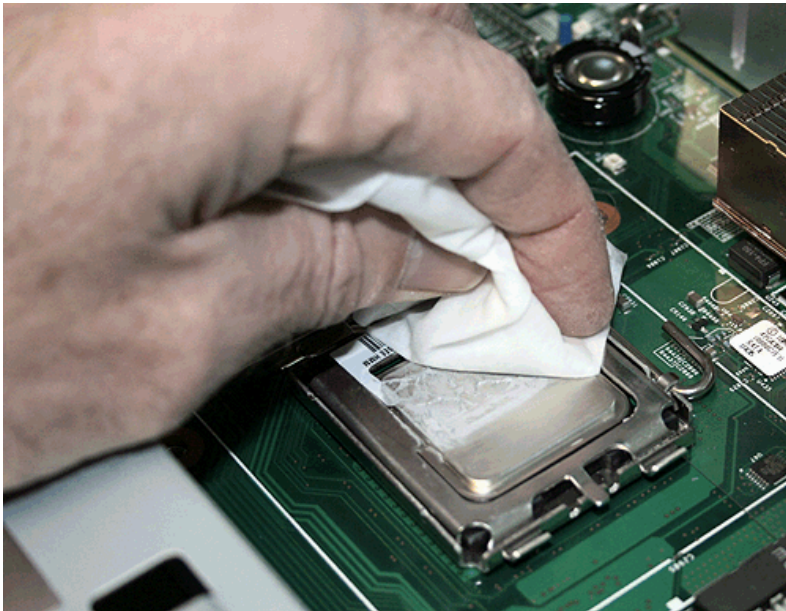

Figure 284. Removing thermal grease from the SAN Volume Controller 2145-8G4 microprocessor
14. Clean the thermal grease from the top of each microprocessor with an alcohol wipe, as shown in Figure 284. Cleaning the microprocessor before it is removed reduces the amount of handling it is subjected to.